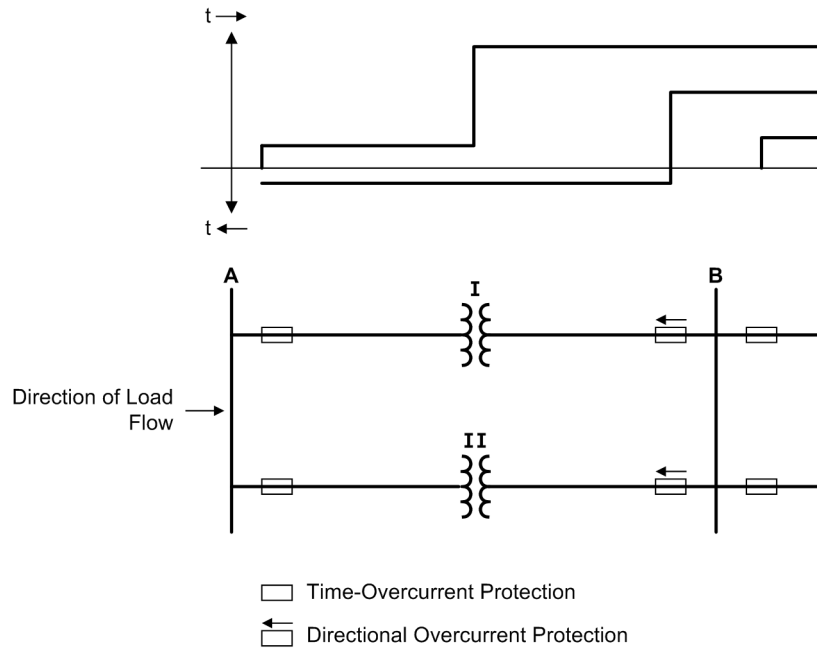

Figure 2-16 Overcurrent protection for parallel transformers
For parallel lines or transformers supplied from a single source (Figure 2-16), the second feeder (II) is opened on occurrence of a fault in the first feeder (I) if tripping of the breaker in the parallel feeder is not prevented by a directional measuring element (at B). Therefore, where indicated with an arrow (Figure 2-16) directional overcurrent protection is applied. Be careful that the "Forward" direction of the protective element is in the direction of the line (or object to be protected). This is not necessarily identical with the direction of the normal load flow, as shown in Figure 2-16.